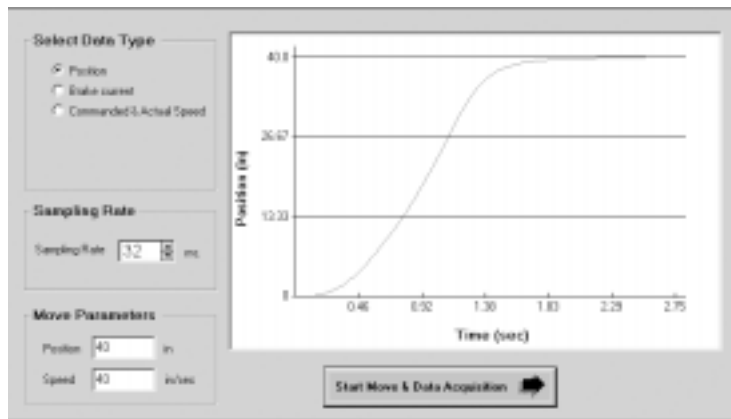
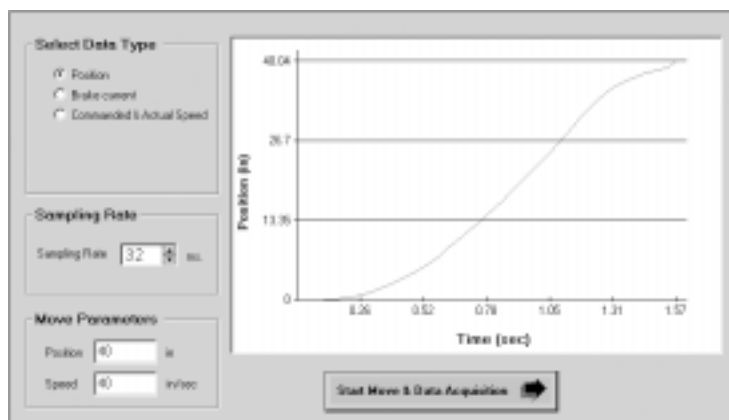

Figure 7.7b
Figure 7.7c
- See figure 7.7b. The servo gains are now adjusted to KP 40, KI 1, KV 3, KT 42. The deceleration rate is also changed to 0.15 seconds. Notice the actuator undershot and moved slowly into position.
- To decrease cycle time see figure 7.7c. The servo gains and deceleration time are the same as figure 7.7b, however, the in-position band is increased to 0.1 inches.